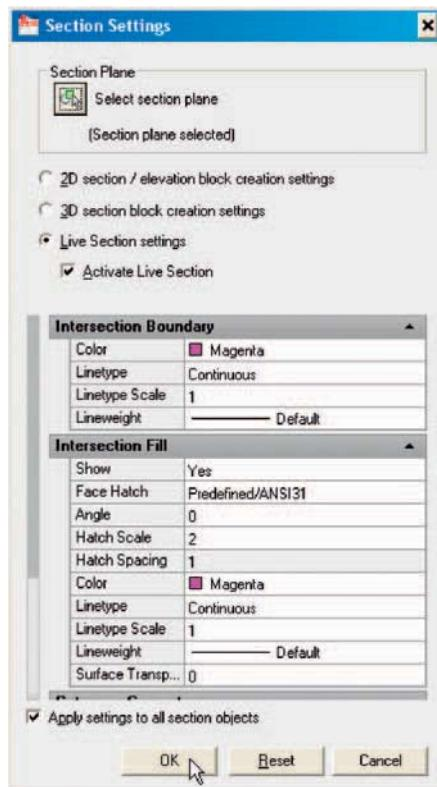

Fig. 14.29 The Section Settings dialog
6. At the command line *enter sectionplanesettings*. The **Section Settings** dialog appears. Click the **Select Section Plane** icon in the dialog. The dialog disappears. Click the section plane. The dialog reappears (Fig. 14.29).